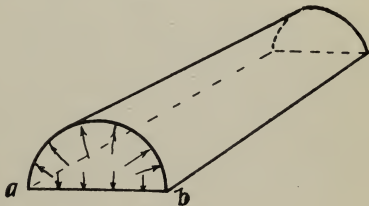

FIGURE 17.
*Example.*—Suppose we have a boiler 96 inches long, 30 inches in diameter and made of steel  $\frac{1}{4}$  inch thick. If this boiler is under steam pressure, it is a well known fact that the pressure acts in every direction from the center outward, and its tendency is to separate the shell into two parts. The total force tending to pull the two halves apart will be equal to the force exerted on the flat plate *a b* of Figure 17, because the force acting upward on the curved upper half must exactly equal the pressure on the flat plate, otherwise the boiler would move, which of course it will not do. The total downward pressure on the flat plate can be easily figured. The area of this plate is  $30 \times 96 = 2,880$  square inches. If the steam pressure is 100 pounds per square inch, the total pressure on the plate is  $2,880 \times 100 = 288,000$  pounds. The metal holding this plate to the upper half is the metal along the edges *a* and *b*. In order for the plate to separate from the curved part the metal must tear apart at *a* and *b* throughout the entire length of the shell. The area of this metal is  $2 \times \frac{1}{4} \times 96 = 48$  square inches.